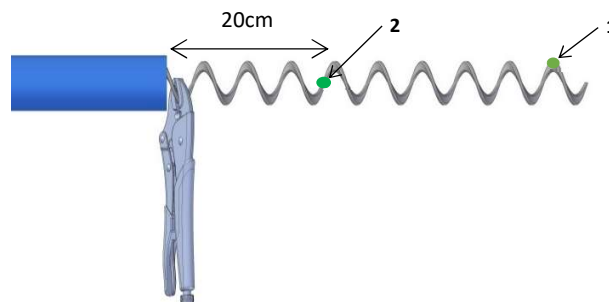

Figure 2
- Allow the auger to pull back until the locking pliers press against the pipe, as shown in Figure 2.
- Follow the same procedure as mentioned in 2.1, but stretch the auger 10cm (4 inches) for every 15m (49ft) of auger length and make a second mark (see point 2 in Figure 2).